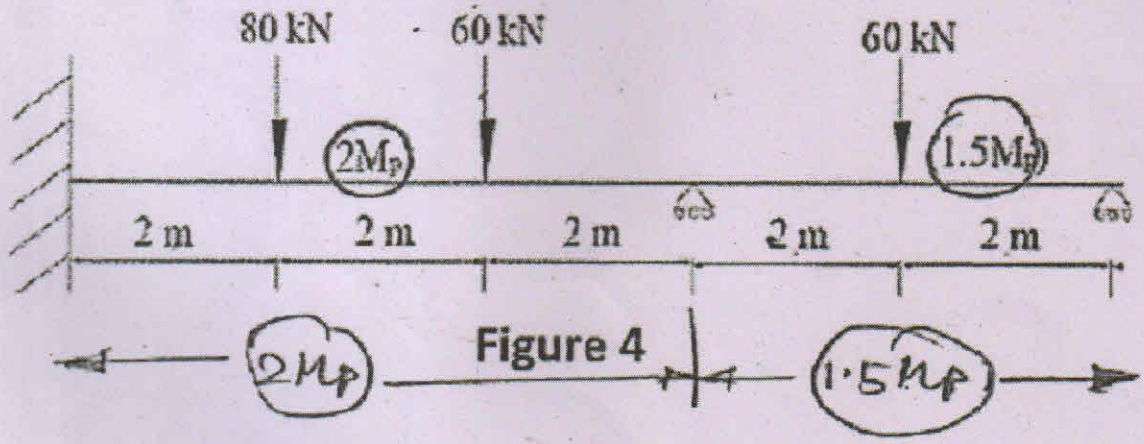

Figure 4
7. Determine the collapse load in the continuous beam as shown in figure 4. (15)